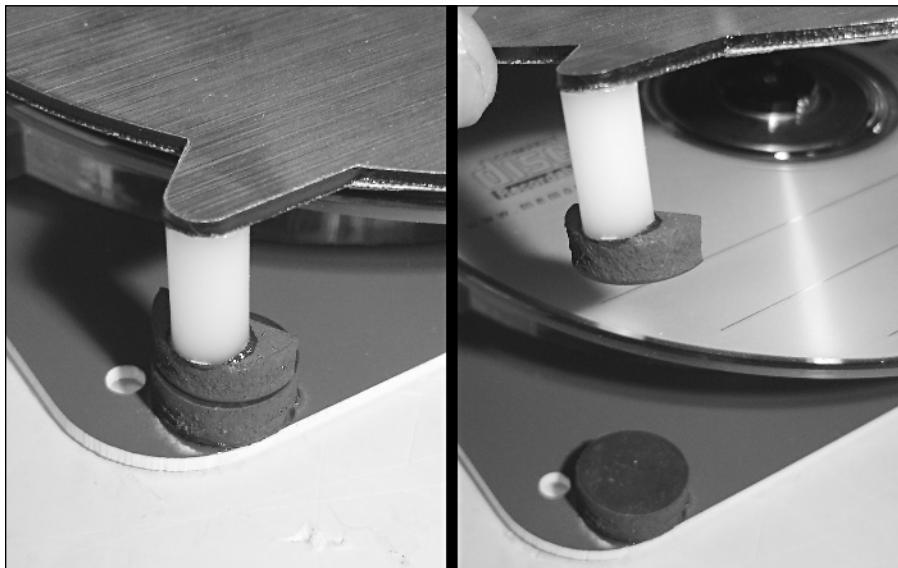

FIGURE 14-12: Magnets: An “attractive” way to make a CD lid latch.
7. Lift the lid once more. The whole magnet should be stuck to the rear plate, while the half magnet comes up with the lid. Just like in Figure 14-12!